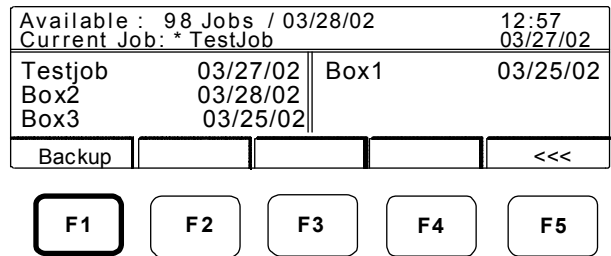

Figure 14-23. Job-Management Menu, screen 3
1. Press F5 (>>>) until the function 'Backup' appears above function key F1 in screen 3 of the job-management menu (see Figure 14-23).